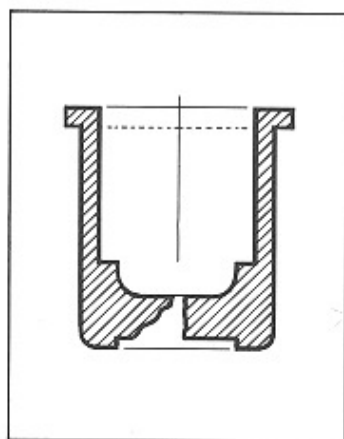
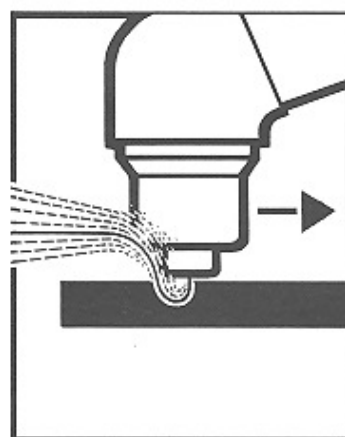

Fig. 8
Fig. 9
- This will prevent misuse of nozzle (see fig. 8) as well as burnings to nozzle holder (see fig. 9).